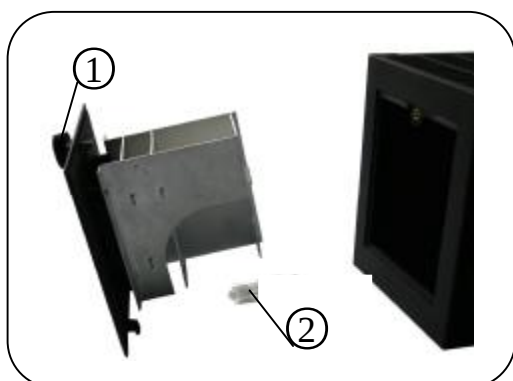

Fig. 20.
- 1) Filament forward or backward adjusting knob ①
- 2) Filament up or down adjusting knob ②
- 3) Filament left or right adjusting knob ③
13. Changing the bulb (Fig. 20.)